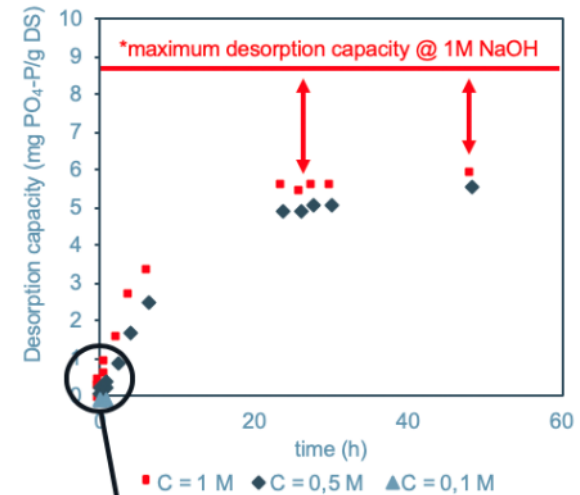

Figure 3: Continuous filter desorption experiment and the effect of the NaOH concentration on desorption capacity
- **Figure 3:** Continuous desorption filter experiments show that only a concentration of 0.5 and 1M NaOH lead to a desired desorption of phosphorus from the ICS granule. At least 24 hours desorption time must be provided.